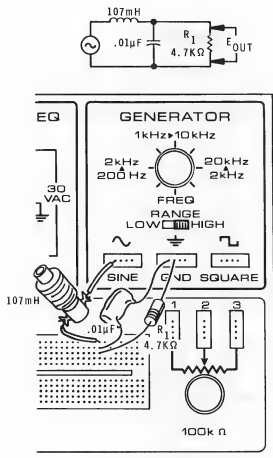
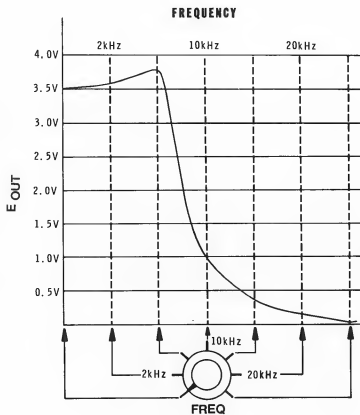

Figure 2-91
Figure 2-98
19. Disconnect the previous circuit and construct the circuit shown in Figure 2-91.
Plot the response curve for the circuit shown in Figure 2-91.
Next you built the circuit shown in Figure 2-91. A typical response curve is shown in Figure 2-98. Your curve should be similar. Because the high frequencies are blocked, this is a low-pass filter.
shown in Figure 2-91.